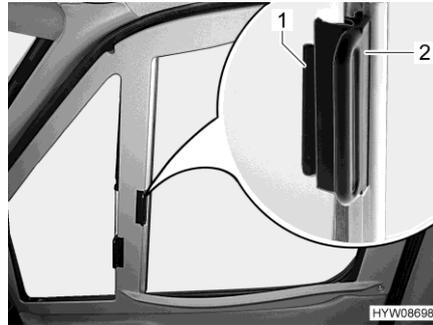

Fig. 26 Roman shade (driver's / front passenger's window)
- Use the handle (Fig. 26,2) to draw the Roman shades for the driver's and passenger's window to the other side of the window and secure them to the magnetic strips.
- Use the handle (Fig. 26,2) to push in the Roman shades for the driver's and passenger's window as far as possible.
- Push the handle (Fig. 26,2) onto the cap (Fig. 26,1).